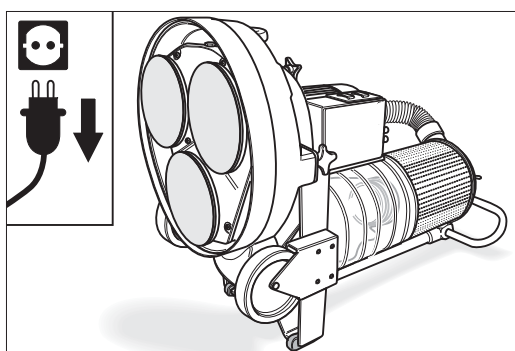

Fig. 34 Tilt the machine backwards to access the sanding gear. **Make sure the machine is in a safe position!**
- 4 While holding on to the handle, carefully tilt the machine backwards into a horizontal position. Make sure that the machine gets to rest safely on the guide tube and the two protective cushions (Fig. 34). **Make sure the machine is in a safe position!**